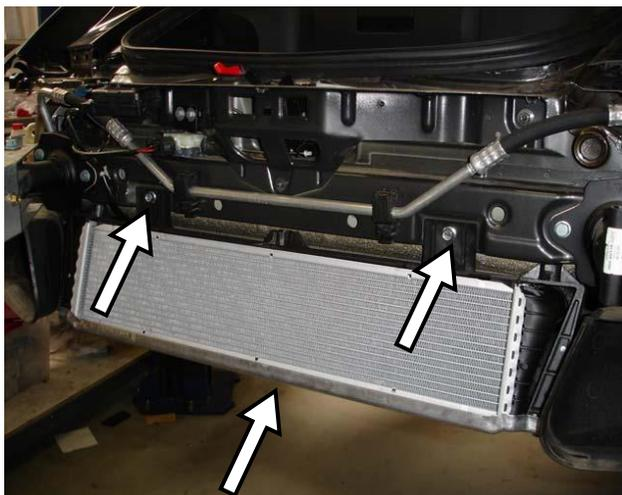

Figure 6 (997)
- Use the anchoring clips supplied to mount radiator (1) in 996 (figure f).
- Mount radiator (1) in 997 as shown in figure 6.